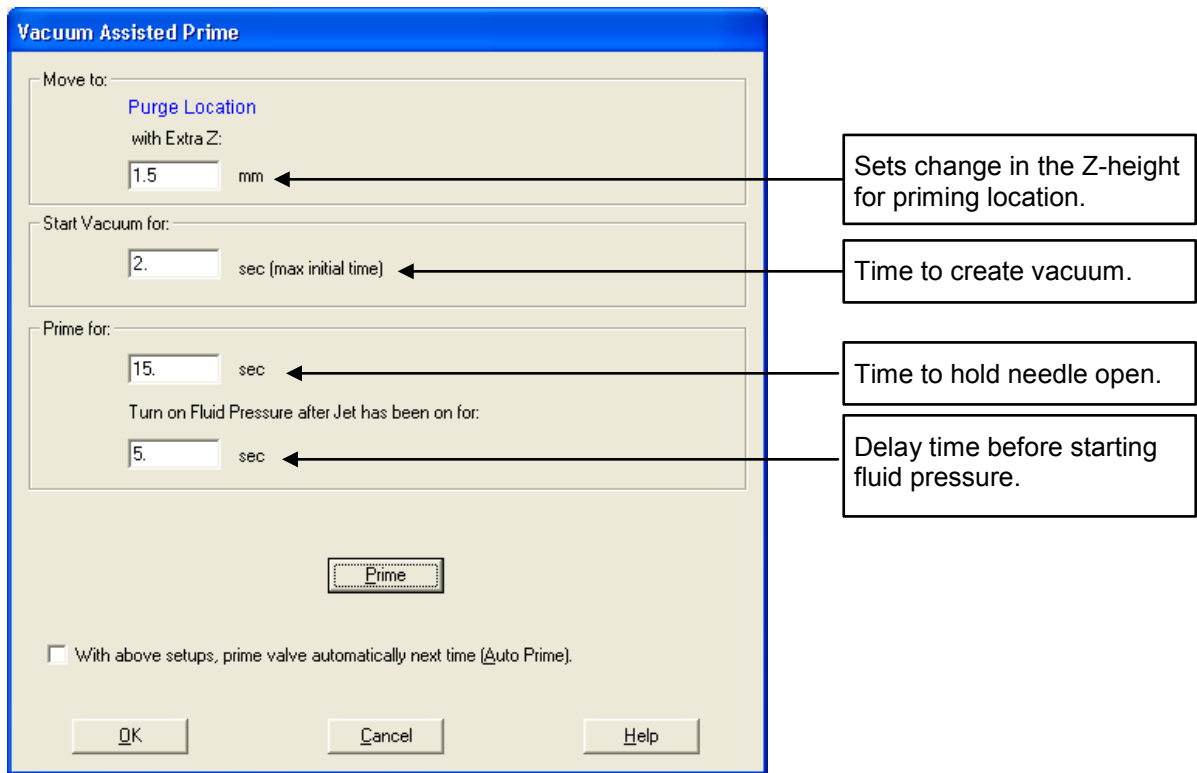

Figure 2-7 Fluidmove – Vacuum Assisted Prime Window
9. When the Prime Valve task begins, the Vacuum Assisted Prime Window (Figure 2-7) opens. Perform the following steps:
7. When the Vacuum Assisted Prime Window (Figure 2-7) opens, perform Steps 9-13 under 2.3.1.1 Fluidmove Production Window.
- ▶ The Vacuum Assisted Prime Window opens (Figure 2-7)
- ▶ The Vacuum Assisted Prime Window opens (Figure 2-7).